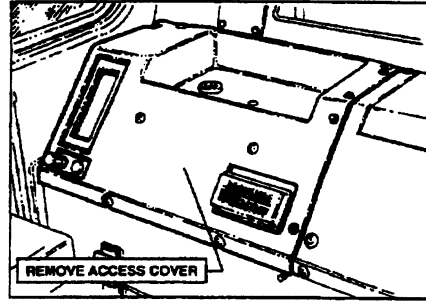

FIGURE 6.32
7. With keyswitch and electrical power "OFF", remove the CPU access Panel behind the operator seat. See Figure 6.32.